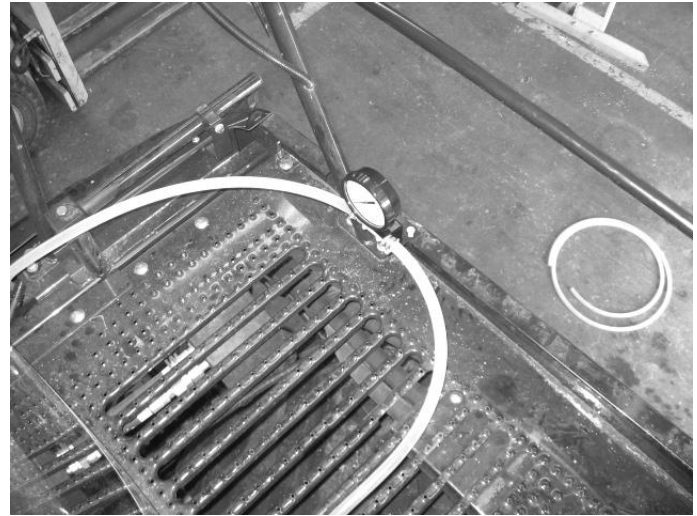

Figure 2
3. Install the gauge on the right fender as shown in figure 2. Check for door clearance before mounting.